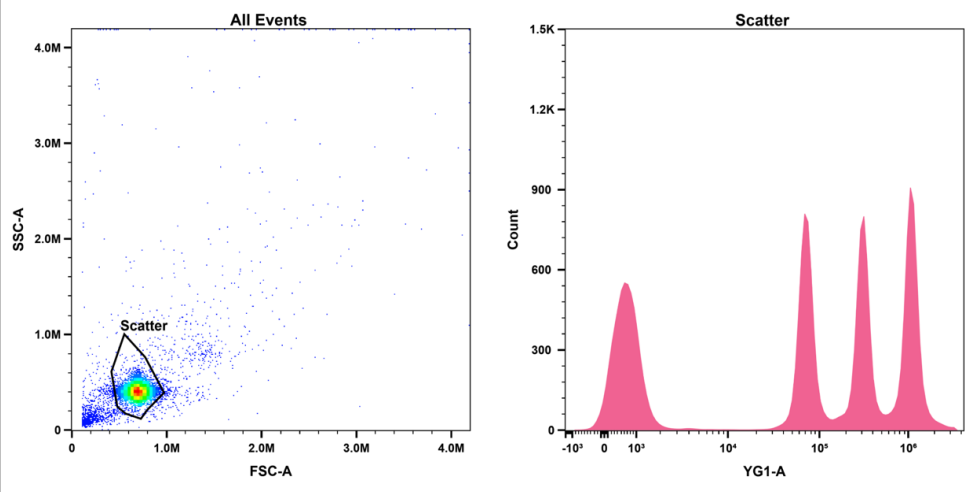

Figure 2. Left: Scatter plot of lymphocyte mimics. Right: Representative flow cytometry analysis of stained QuantCytes™ CD19 controls with PE-HIB19.
2.1.1. Properly gate the population for QuantCytes™ CD19 as in Figure 2 below in a plot of SSC-A versus FSC-A.